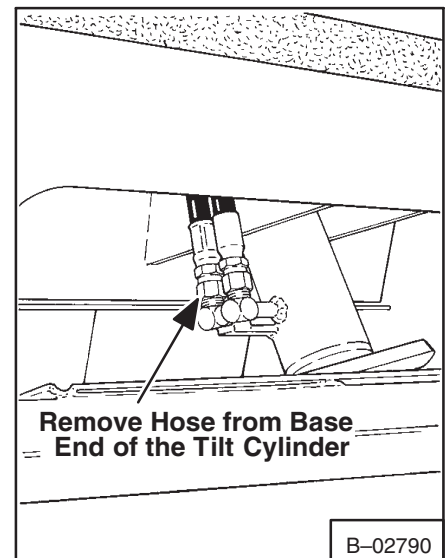

Fig. 2-123 Checking Tilt Cylinder
2. Disconnect the hose that goes to the base end of the tilt cylinder (Fig. 2-123) and plug the hose.